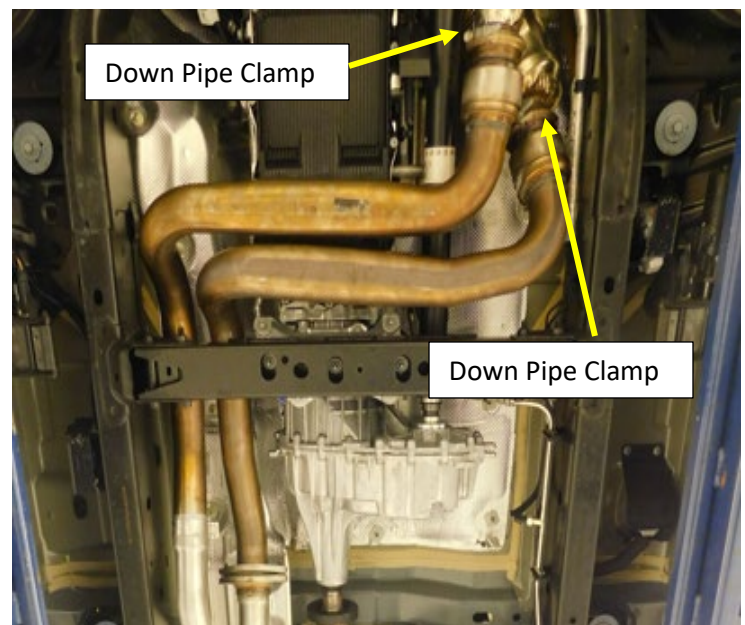

Figure.4 (H.O Shown)
11. Remove the nuts from the clamps on the down pipe connection at the catalytic converter using a Ratcheting 16mm wrench. Remove the bolt and alignment spacer. **Fig.4**